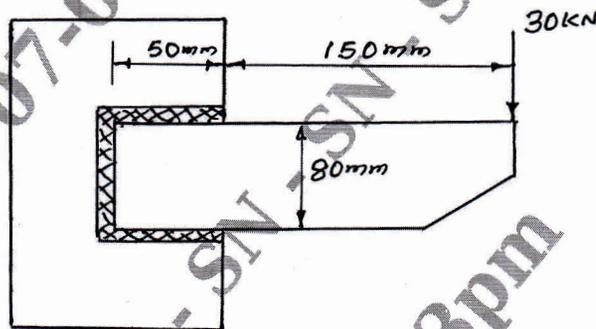

Fig.Q7(b)
- b. Determine the size of weld required for an eccentrically loaded weld as shown in Fig.Q7(b). The allowable stress in the weld is 75 MPa.